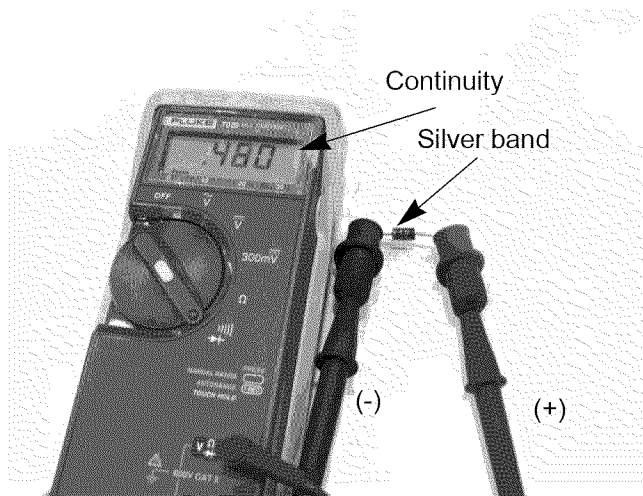

Figure 7.56
5. There should be continuity. See Figure 7.56.